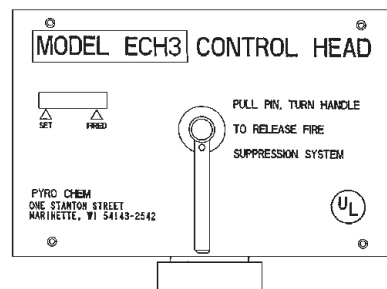

Figure 2-5. Electric Control Head.
The Model ECH3 electric control head is an electrically operated control head which can be connected to the PCL-300/460/600 cylinder valve. This control head will support an electric thermal detection system, a remote mechanical pull station (Model RPS-M), and an electric gas shut-off valve. It will not support a fusible link detection system. A micro electric switch (Model MS-DPDT) is included. The Model ECH3 control head is available in both 120 VAC (Model ECH3-120, P/N 551202) and 24 VDC (Model ECH3-24, P/N 551201). It is equipped with a local manual control handle that allows for mechanical system actuation. Operation of the local manual control requires removing the pull pin and rotating the handle clockwise. The Model ECH3 control head can actuate a maximum of five (5) cylinders with the 16 gram CO₂ cartridge. See **Figure 2-5**.